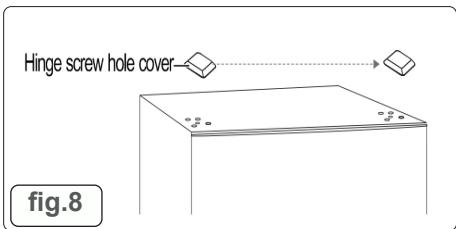

fig.8
9. Install the refrigerator compartment door. (fig.8).